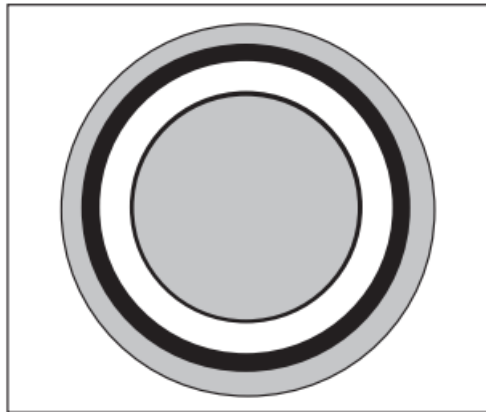
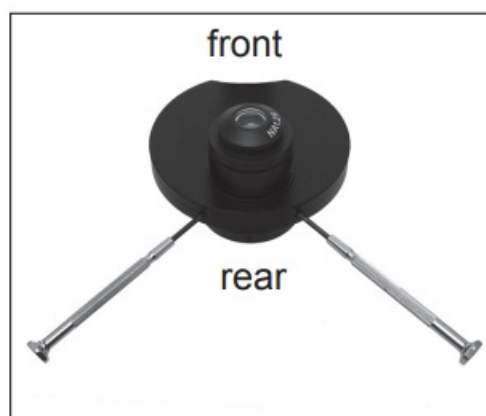

Figure 10
Figure 11
8. Insert a small slotted screwdriver into one of the two access slots in the rear of the condenser (figure 11) to access the adjustment screws (or preferably use two screwdrivers at the same time, one in each access slot). While looking through the centering telescope, watch the white ring move as you turn the adjustment screw(s) in either direction. You will need to make adjustments to one or both of the screws in order to properly overlap the black annulus ring with the white ring (figure 10). If you're having problems concerning the rings from the background or from internal reflections make sure that the telescoping eyepiece is properly focused and that the substage height is adjusted correctly.